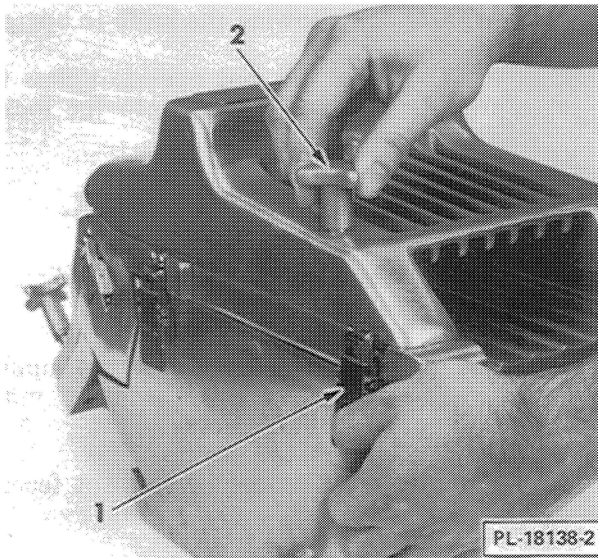

Fig. 9
- Close the grilled cover and clamp (1, Fig. 9) in place. Push interlock knob (2, Fig. 9) down and rotate 90° clockwise.
3. Release grilled cover clamp (1, Fig. 9) and raise cover up to raised position.